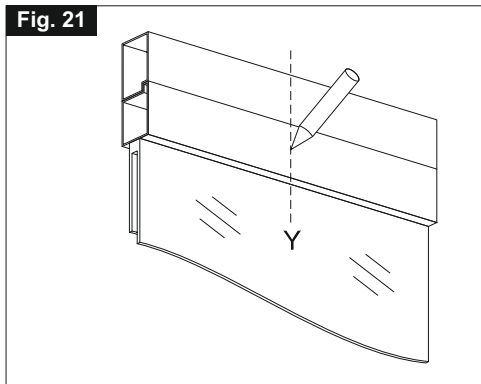

Fig. 22
- 3) Fig. 22- Apply the template on the window frame aligning it with the previously drawn centre line "Y";